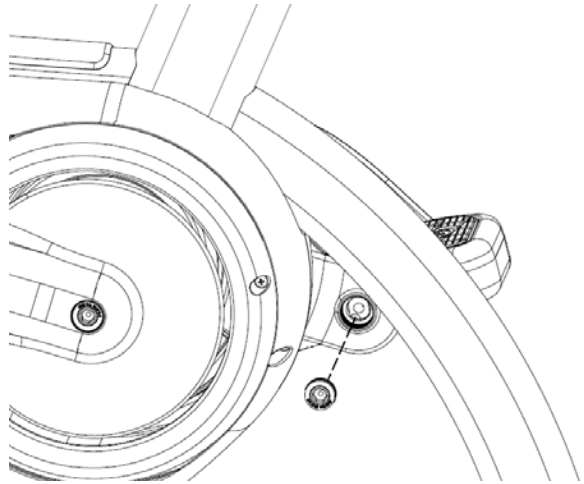

Fig. 16
15. Insert each pedal (Fig. 16) into the corresponding crank arm.